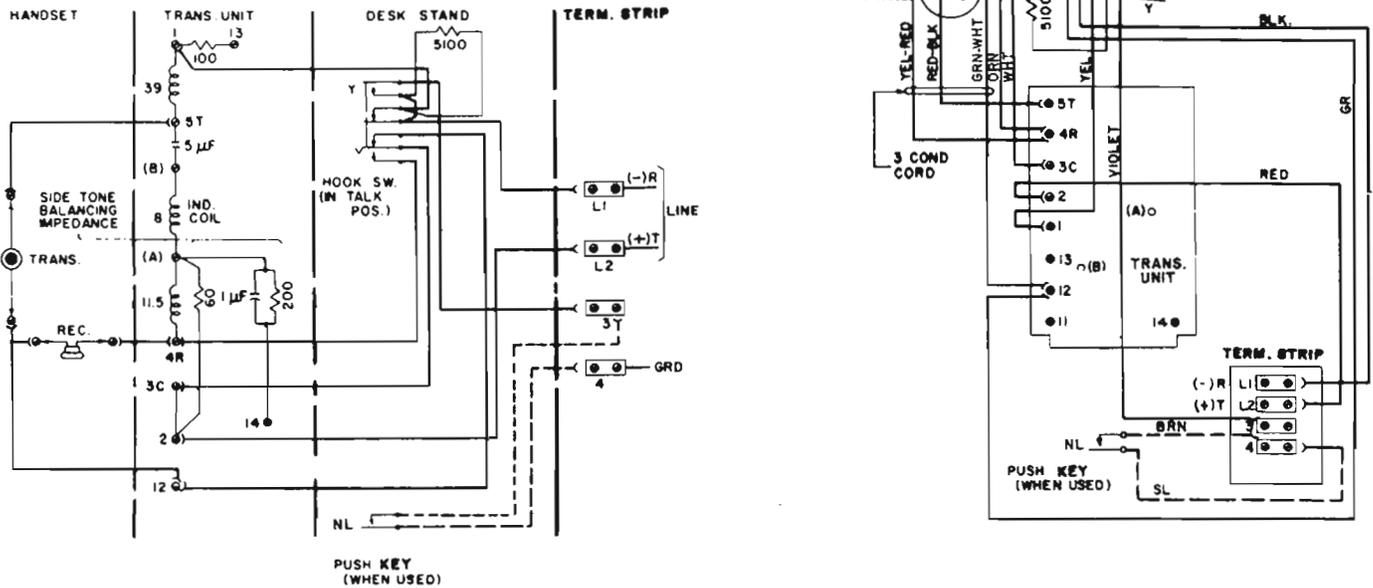

Figure 10. Schematic and Wiring Diagram of Type 81 Handset, Three-Conductor Cord with Potted Transmission Unit.
- (2) If the installation is to have a lamp mounted on the top of the box assembly, power wires for this lamp will have to be installed. An adapter (D-65576-A or B) should be installed on top of the housing, providing a facility for routing the power wires through conduit directly to the lamp.
- (3) Open the box assembly door and remove the four cover assembly screws and cover assembly accessing the terminal block. A special screwdriver, furnished with the telephone, is used to remove the cover screws.
- (4) Attach the line wires to the terminals of the terminal block (Figure 10) as follows:
- (1) Open the housing door.
- (2) Remove the four cover assembly screws and remove the cover assembly, exposing the telephone wiring.
- (3) Referring to Figure 10, remove the handset cord conductors from the following transmission unit terminals:
- (4) Remove the four baseplate screws and baseplate from the housing.
- (5) Remove the cord clamp screw and cord clamp.
- (6) Remove the handset cord.
- (7) Insert the new handset cord, placing it under the telephone baseplate and clamping it in position with the cord clamp and cord clamp screw.
- (8) Replace the telephone baseplate and secure it in position with the four screws removed previously.
- (9) Connect the handset cord conductors to the following transmission unit terminals: